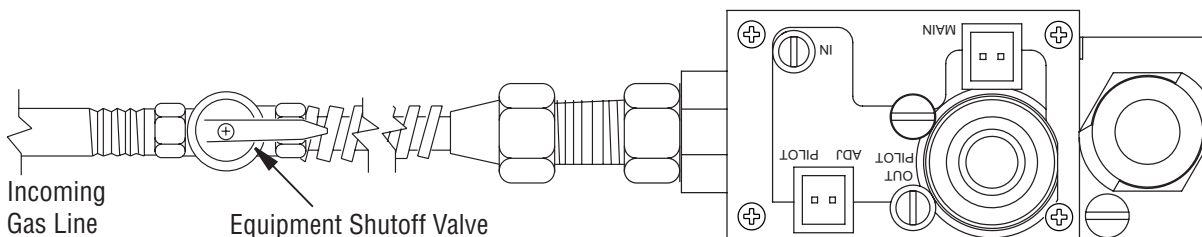

Figure 30 - Turning Equipment Shutoff Valve to the OFF Position
5. Turn equipment shutoff valve clockwise to the OFF position (see Figure 30). Do not force.